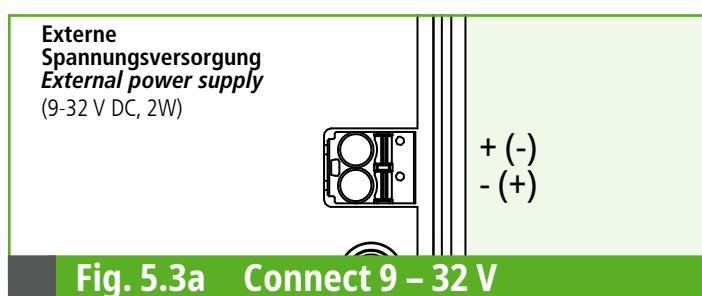

Fig. 5.3a Connect 9 – 32 V
- ⇒ Apply the external supply voltage (9 to 32 V DC), see Fig. 5.3a